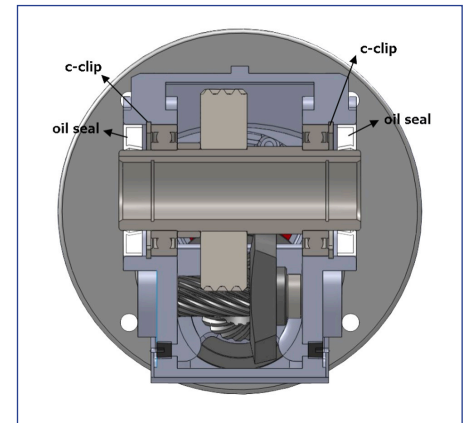

Figure 1
1. Remove oil seal and c-clip from one of the output ends depending on the shaft direction. (Fig. 1).
1. Remove oil seal and c-clip from one of the output ends depending on the shaft direction (Fig. 1).